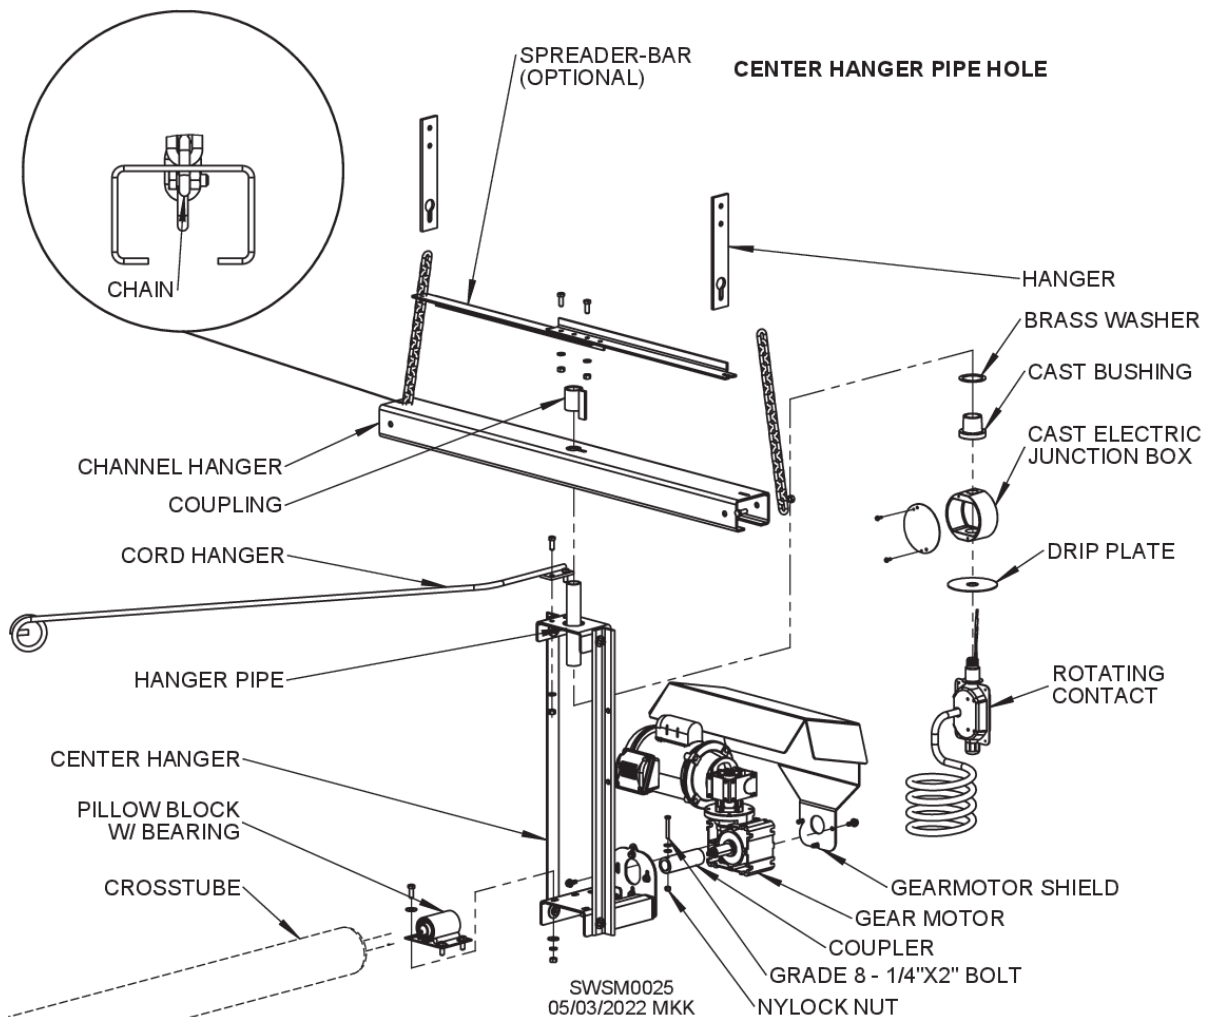

Fig. 20 – Center hanger assembly
- 33 Attach pillow-block bearing to center hanger with 3/8" x 1" bolts and 3/8" flat washers, lock washers and nuts. Do not tighten until gearmotor alignment is correct (Step 37). See Fig. 20.
- 35 Place gearmotor shaft in coupler and attach gearmotor assembly to center hanger using M8 bolts. Tighten bolts using 1/2" wrench. See Fig. 20
- 36 Attach gearmotor shield using M8 bolts. See Fig. 20
- 38 Tighten 4 setscrews in pillow-block bearing (2 on each end) using 1/8" hex wrench. Tighten bolts (Step 33) using 9/16" wrench. See Fig. 20.
- 39.1 **Note: Ensure threads are fully engaged, as they will hold weight of stirring machine. See Fig. 20.**
- 40 Slide cast bushing and brass washer onto hanger pipe so they rest on junction box. See Fig. 20.
- 41 Slide end of hanger pipe up through bottom of hole in center hanger so junction box is inside center hanger. See Figs. 20 & 21.
- 42 Slide channel hanger over hanger pipe. See Figs. 20 & 21.
- 43 Screw coupling onto hanger pipe ensuring tab on coupling fits in slot on channel hanger. See Figs. 20 & 21.
- 44 Thread a liquid-tight elbow (not provided) into top of coupling. Ensure threads are seated properly and tighten well. See Fig. 20.
- 45 Bolt chains onto each end of channel hanger using 3/8" x 1" bolt and 3/8" nut. Tighten using 9/16" wrench. See Figs. 20 & 21.